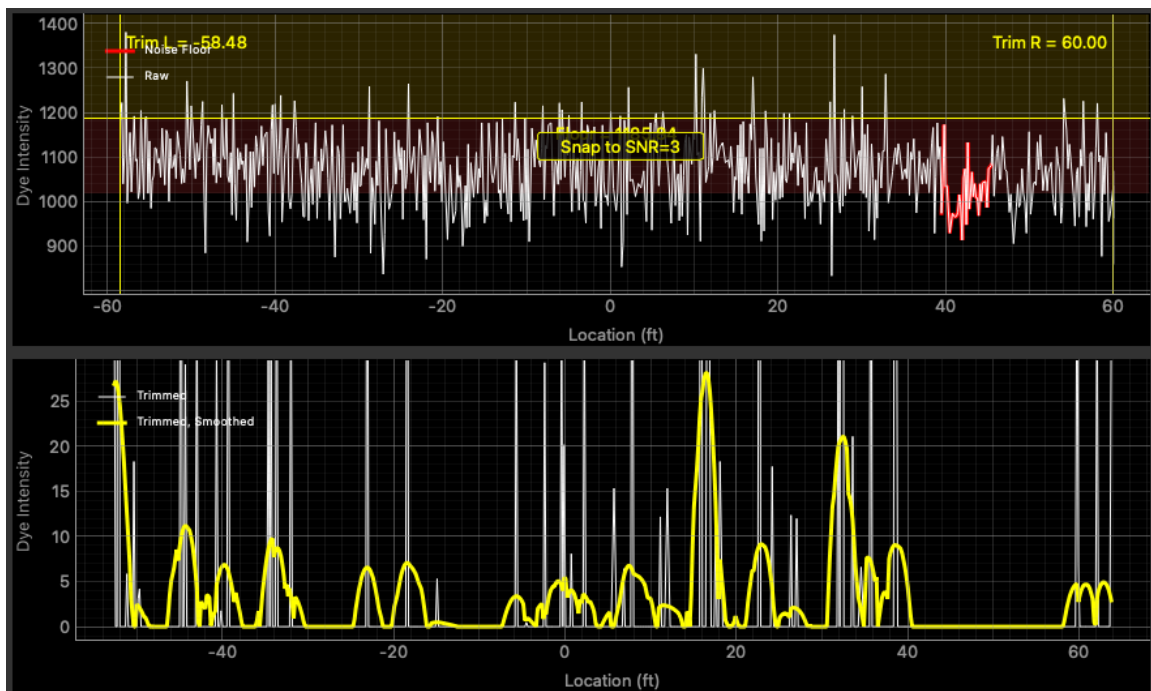

Figure 20: String Analysis - Quality of Pattern Data - No Isolation
7.2.2.3 Insufficient Isolation A pattern with insufficient isolation will have little to no visually distinguishable transition point between itself and blank string (Figure 20). The majority of the string's extent will have similar vertical variation and will appear exaggerated due to the scaling of the plot in absence of a pattern rising out from it. Note that a majority of the data points do not even survive the $SNR \geq 3$ Floor.